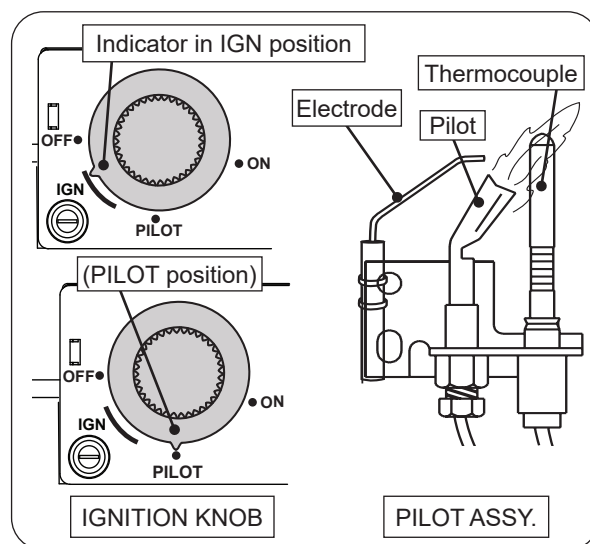

Fig. 26-1 Pilot lighting
3. Locate the pilot assembly on the side or rear of the burner pan (see Fig. 26-1).
5. While still holding the knob in, turn the knob counterclockwise to **PILOT** until you hear a click (piezo igniter will activate and light pilot). Continue to hold the knob in for about one (1) minute after the pilot is lit. Release the knob and it will pop back out. The pilot will remain lit. See Fig. 26-1. If it goes out, repeat steps 2-5.